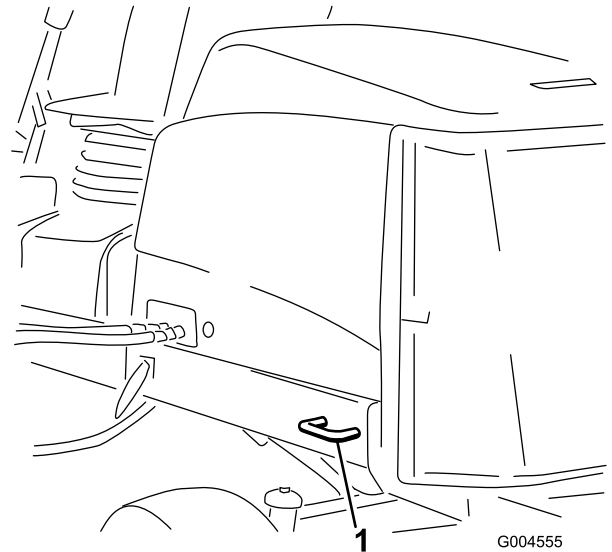

Figure 48
- Rear—each side of the machine on the rear frame (Figure 48).